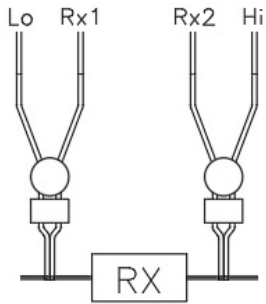

Fig. 3
- 3) Connect the 2 clips as following Fig. 3 to measure the unknown resistance.